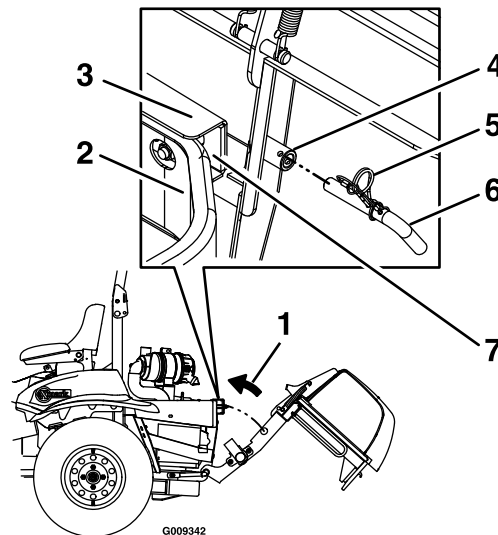

Figure 9
6. Lift the hood assembly and pivot it upward towards the back of the machine (see Figure 9).
10. Install the mount pin into the frame mount barrel. Make sure that it extends into the opening (see Figure 9).